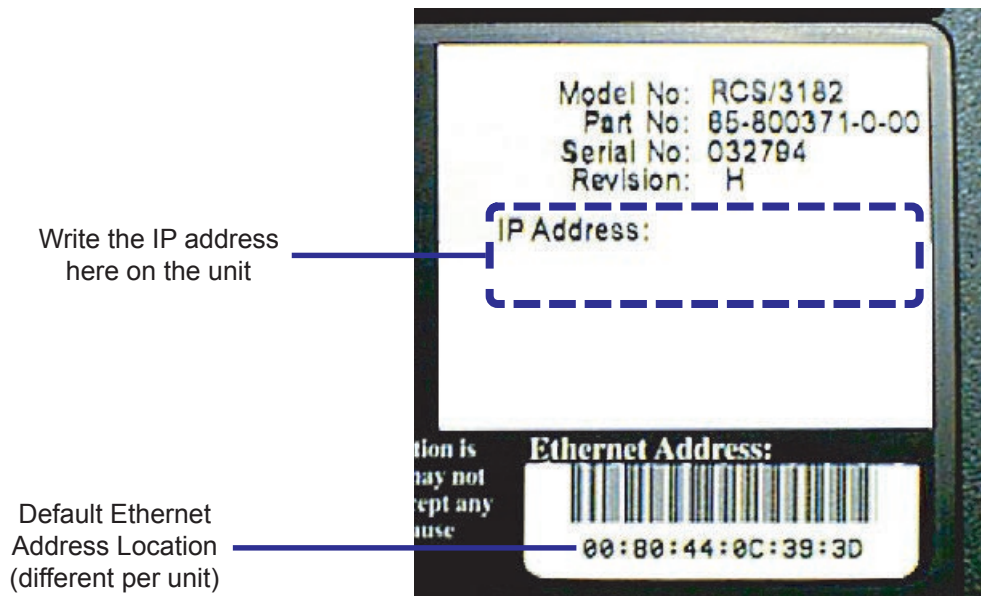

Figure 1 - Bottom of TS-EPS
1. With an indelible ink pen, record the IP address that will be used for this device on the label on the back of the unit (see Figure 1). *The IP address will be handy to have around when working with a multiple IP node site.*